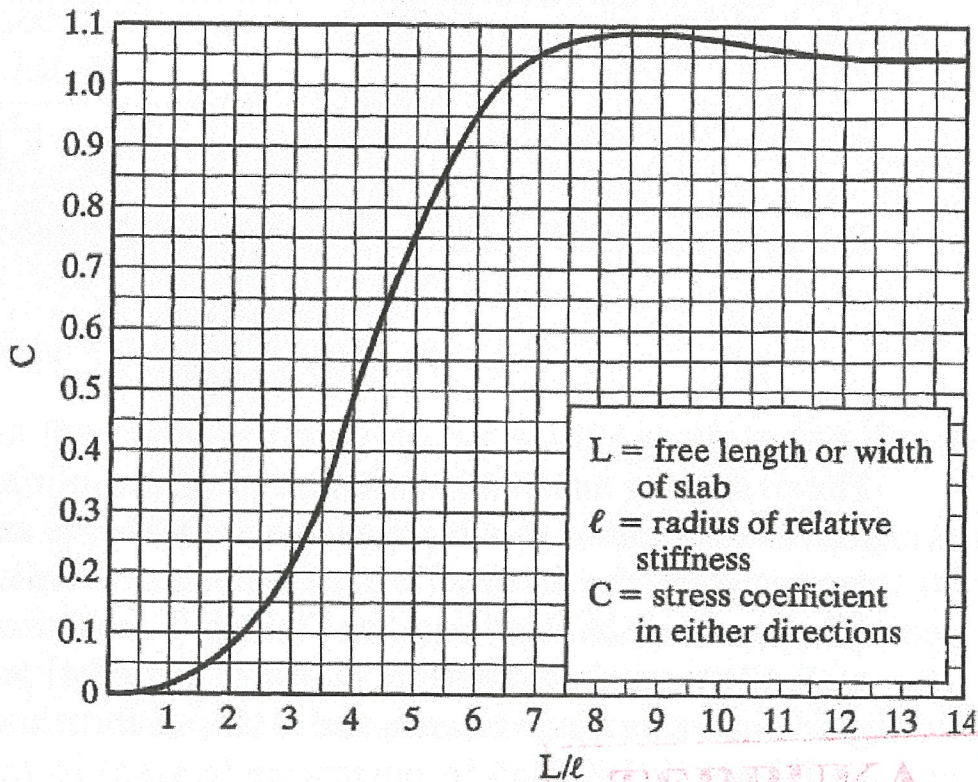

FIGURE Q3(d)(ii) : Stress Correction Factor for Finite Slab (After Bradbury, 1938)
- (c) Describe **TWO (2)** types of highway rigid pavements which are constructed with steel reinforcement and state the conditions under which each type will be constructed. (4 marks)
- (d) **FIGURE Q3(d)(i)** shows a rigid pavement slab 25 ft (7.62 m) long, 12 ft (3.66 m) wide and 8 in. (203 mm) thick, subjected to a temperature differential of 20°F (11°C). Due to temperature change, the modulus of sub-grade reaction, $k = 54.2 \text{ MN/m}^3$ (200 psi) and coefficient of thermal expansion of concrete, $\alpha_t = 5 \times 10^{-6} \text{ in./in./}^\circ\text{F}$ ($9 \times 10^{-6} \text{ mm/mm/}^\circ\text{C}$). Analyze the maximum curling stress in the interior and the edge of the slab, if the modulus of concrete, $E = 4 \times 10^6 \text{ psi}$ and Poisson ratio is 0.15. (12 marks)
- (b) Describe **FOUR (4)** characteristics of pavement condition to evaluate whether the pavement should be rehabilitated. If that so, determine the appropriate treatments. (8 marks)
- (c) Differentiate between corrective and preventive rehabilitation techniques and list **THREE (3)** examples of surface treatments in each category. Select the best preventive maintenance technique for subsurface maintenance. (5 marks)